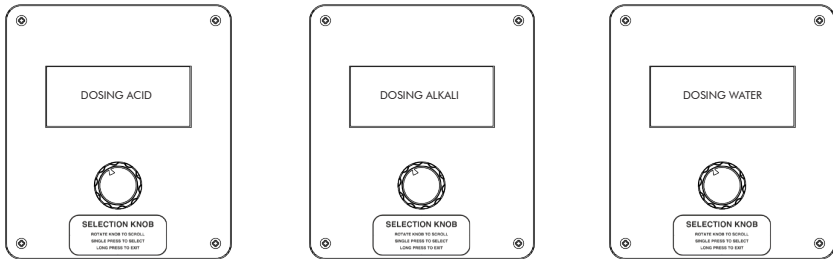

fig. no.24.1
• **DOSING REAGENT** (fig. no.24.1)